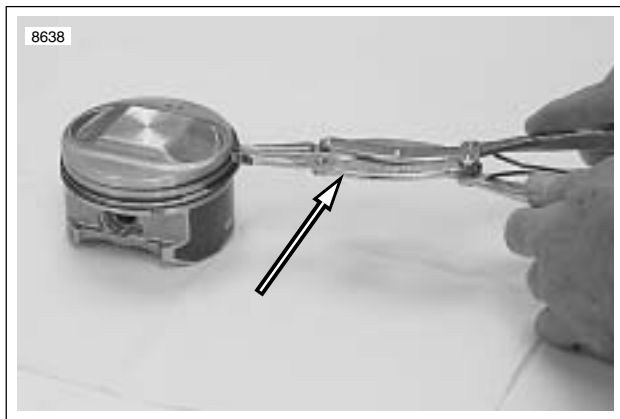

Figure 3-97. Installing Piston Rings Transmission Shaft Retaining Ring Pliers (Part No. J-5586)
2. See Figure 3-97. Apply engine oil to piston grooves. Use TRANSMISSION SHAFT RETAINING RING PLIERS (Part No. J-5586) to slip compression rings over piston into their respective grooves. Be extremely careful not to over expand, twist rings or damage piston surface when installing rings.